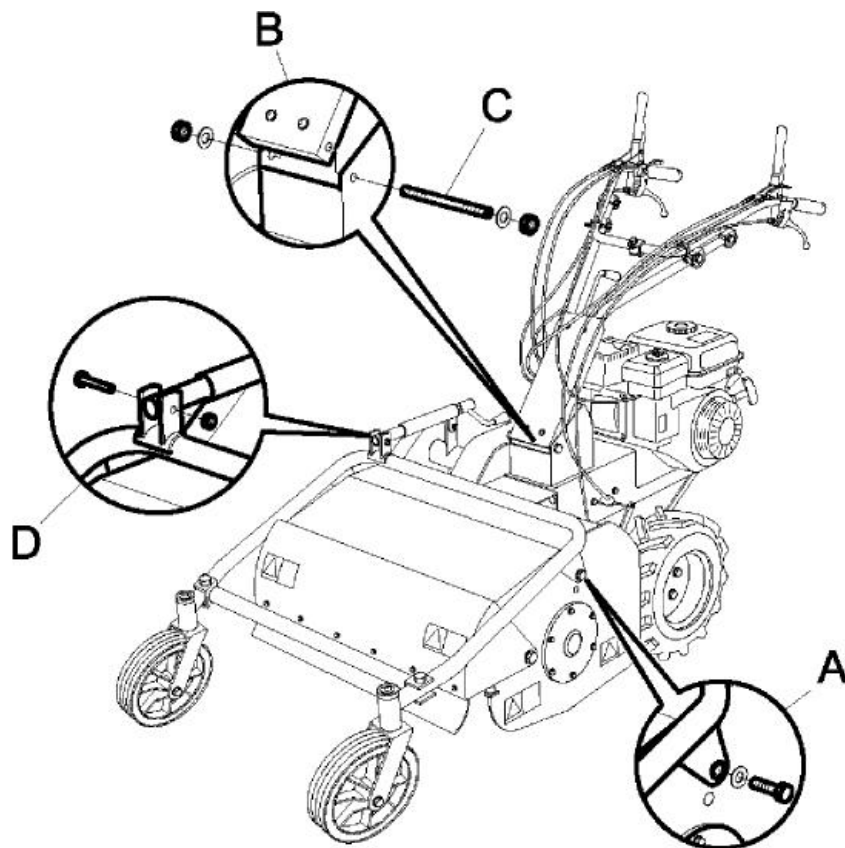

Figure 3
- Position the support with front wheels and connect the height adjustment piece (Fig. 3 ref. D) using the screw and washer provided. Fix it to both sides of the bonnet as well using the screws, washers and spacers provided, as shown in Fig. 3 ref. A.
- Fix the safety bar (Fig.3 ref. E) to the special holes on the two front sides of the wheel support using the screws, washers and nuts provided.